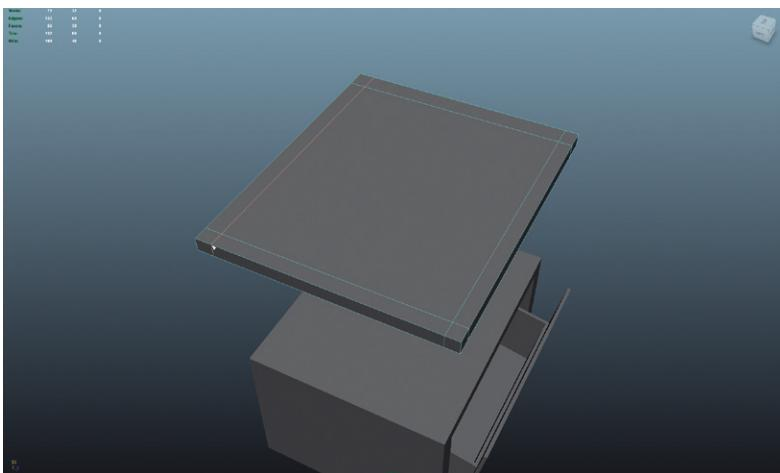

FIG 3.52 Inserting additional edge loops.
Step 8: Add further geometry with additional loops. Again, activate the Insert Edge Loop Tool and create further loops parallel and perpendicular to the first edge loop (Fig. 3.52).
Notice that the way the Insert Edge Loop Tool works is a loop is created perpendicular to the edge clicked. So to get the edges shown in Fig. 3.52, some of the edges were created along the same side, but the next two have to be created by clicking on one of the edge perpendicular to the first.